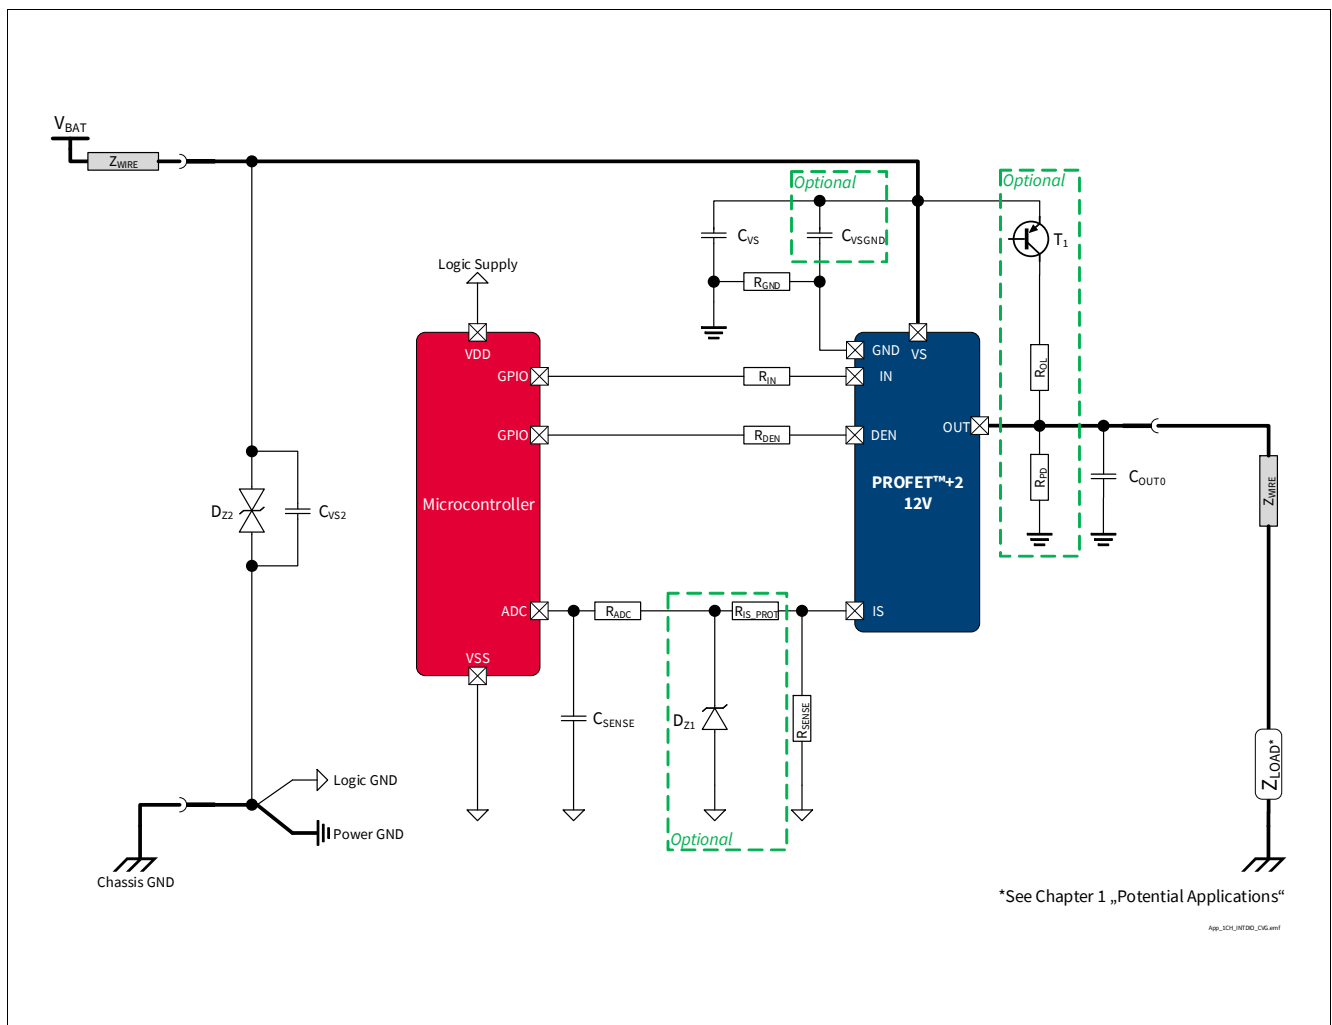

Figure 42 BTS7010-1EPA Application Diagram
1.02, 2019-10-15	<p>P_8.7.2.1, P_8.7.2.7, P_8.7.2.8 updated (added in Note or Test Condition: link to Figure 25) P_7.5.2.4, P_7.5.2.5 updated (added in Note or Test Condition: DEN = “low”; link to Figure 19) P_7.5.2.12 updated (added in Note or Test Condition: see Figure 21) P_8.7.2.6 updated (added in Note or Test Condition: see Figure 26) P_9.7.2.1 updated (added in Note or Test Condition: See Figure 34) P_9.7.2.6 updated (Min./Max.: -45%/+45% → -34.5%/+34.5%) P_9.7.2.9 updated (Min./Max.: -38%/+38% → -25.5%/+25.5%) P_9.7.2.12 updated (Min./Max.: -34%/+34% → -22.5%/+22.5%) P_9.7.2.15 updated (Min./Max.: -22%/+22% → -13.0%/+13.0%) P_9.7.2.17 updated (Min./Max.: -9%/+9% → -8.1%/+8.1%) P_9.7.2.19 updated (Min./Max.: -6%/+6% → -4.6%/+4.6%) P_9.7.2.21 updated (Min./Max.: -5%/+5% → -3.9%/+3.9%) P_7.5.2.11 updated (added in Note or Test Condition: see Figure 19) P_4.2.2.6 updated (Max.: 13.5 mJ → 17 mJ) Figure 1, Figure 42 updated Chapter 1 updated (or LED equivalent → or equivalent electronic loads (e.g. LED modules)) P_4.3.0.7 added Table 23 updated Chapter 5.1 updated (added: see Chapter 10 for the complete application setup overview)</p>